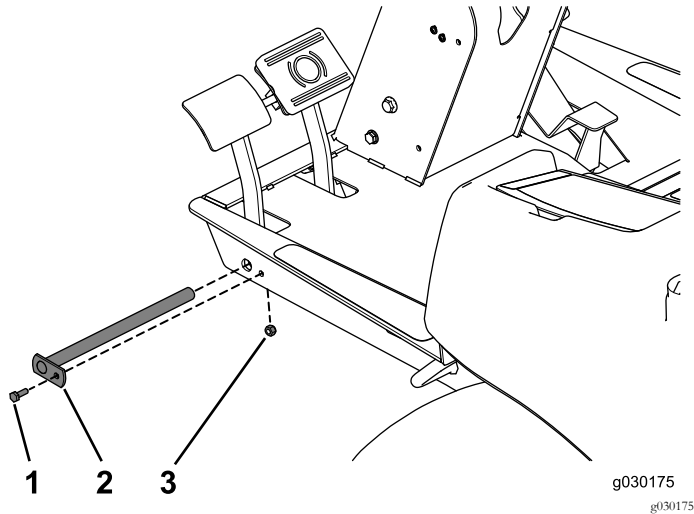

Figure 1
4. Remove the bolt securing the brake pin that holds the brake pedals (Figure 1).